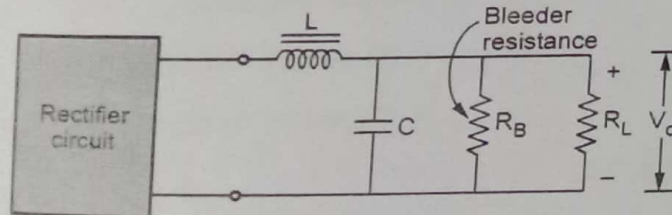

Fig. Q.35.1 LC filter with bleeder resistance
- The bleeder resistance is shown in the Fig. Q.35.1.